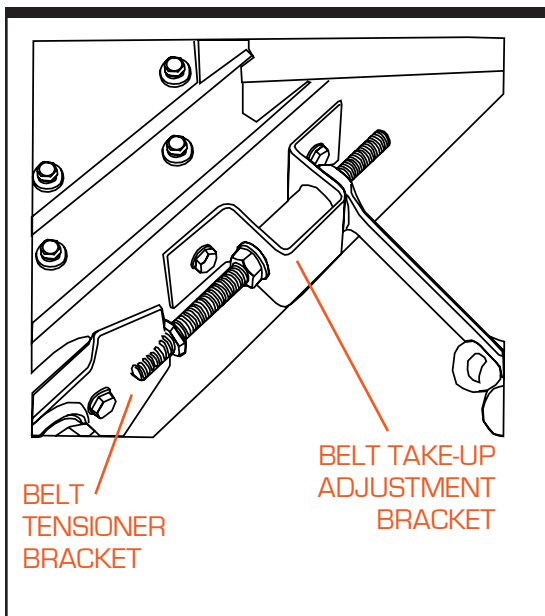

Figure 3-11. Tracking Adjustment of Belt Made to Belt Tensioner
Step 12—Adjust Tracking. Turn the prefeeder on and set to a slow speed to observe tracking of the belt. Run a new belt at least several complete revolutions before adjusting the tracking. If the belt pulls to one side or if the belt moves from side to side, adjust the tensioner bracket on the side to which the belt is pulling (see Figure 3-11).
Step 3—Tension Belt. Use the tensioner brackets on the base of the prefeeder (see Figure 3-11) to remove excessive slack in the belt before beginning tracking.
Step 4—Turn on Power and Adjust Tracking. Restore power to the prefeeder and turn it on, setting it to a slow speed to observe tracking of the belt. Run a new belt at least several complete revolutions before adjusting the tracking. If the belt pulls to one side or if the belt moves from side to side, adjust the tensioner bracket on the side to which the belt is pulling (see Figure 3-11.)